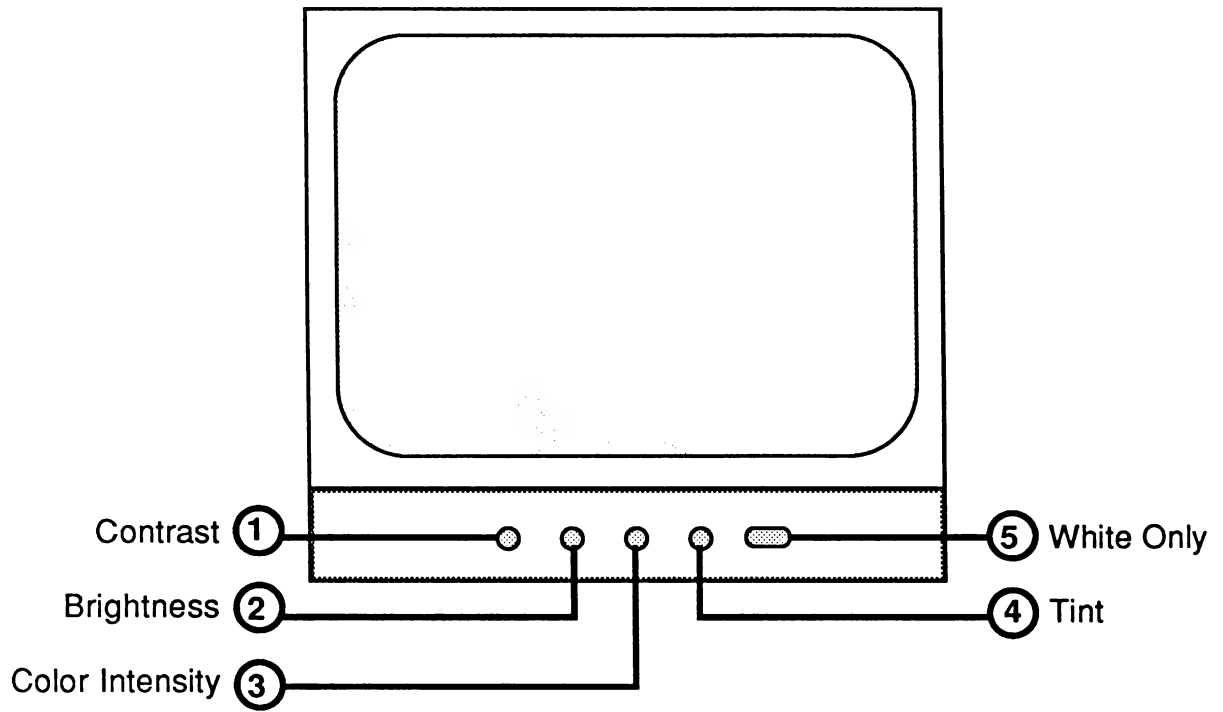

FIGURE 8
22. Adjust the **COLOR INTENSITY** control (Figure 8, #3) and the **CONTRAST** control (Figure 8, #1) for optimum color viewing.
23. Adjust the **TINT** control (Figure 8, #4) until the yellow color bar is at its yellowest hue.
9. Adjust the **CONTRAST** control (Figure 8, #1) to its full clockwise position.
10. Adjust the **BRIGHTNESS** control (Figure 8, #2) to its optimum viewing condition.
13. Adjust the **COLOR INTENSITY** control (Figure 8, #3) to its maximum counter-clockwise position.
14. Depress the **WHITE ONLY** switch on the front panel (Figure 8, #5).